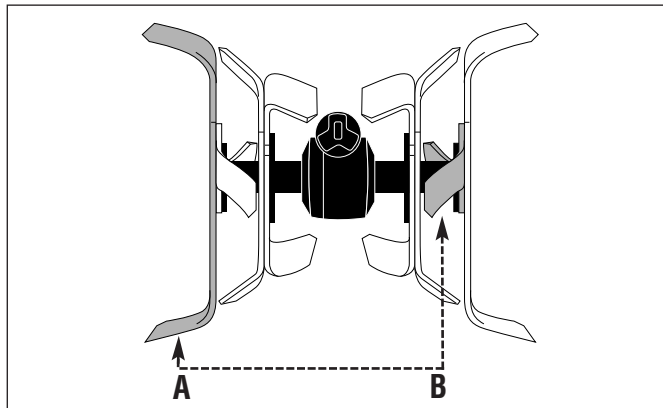

Figure 19: Exchanging position of tines at "A" and "B."
Step 1: Move the two *left-curved* tines (labelled "A" in Figure 19) from the left outer holder to the "B" position on the right outer holder. Move the two *left-curved* tines which were at the "B" position to "A."